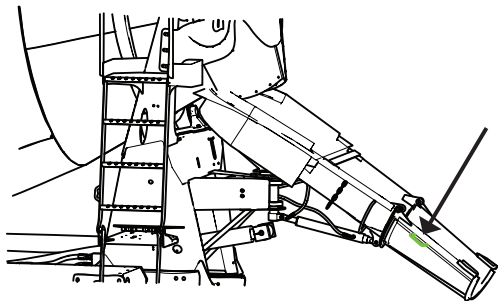

Figure 136
3. Slowly lower the chute into operation position (Figure 136).
1. Grip the fold-over chute using the correct hand-holds (Figure 136).